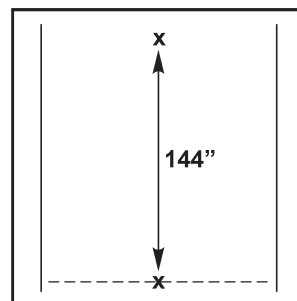
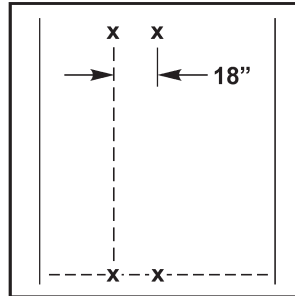

Figure 50
Figure 56
- Find and mark the center of the lane at the base and 144 inches above the base (see Figure 50).
- Measure and mark 18 inches to the LEFT of each center mark in Figure 50 and snap a vertical chalk line (see Figure 56).